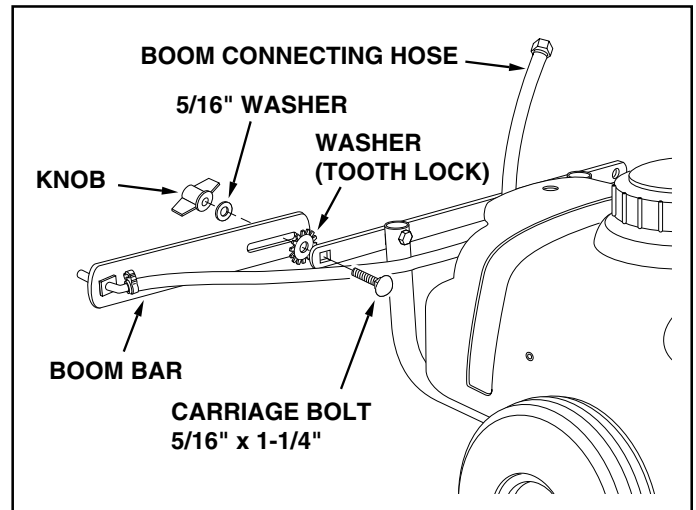

FIGURE 6
10. Assemble the boom bars to the boom mount bracket using two 5/16" x 1-1/4" carriage bolts, tooth lock washers (between the bar and bracket), 5/16" flat washers and knobs. The boom connecting hose should extend upward. See figure 6.